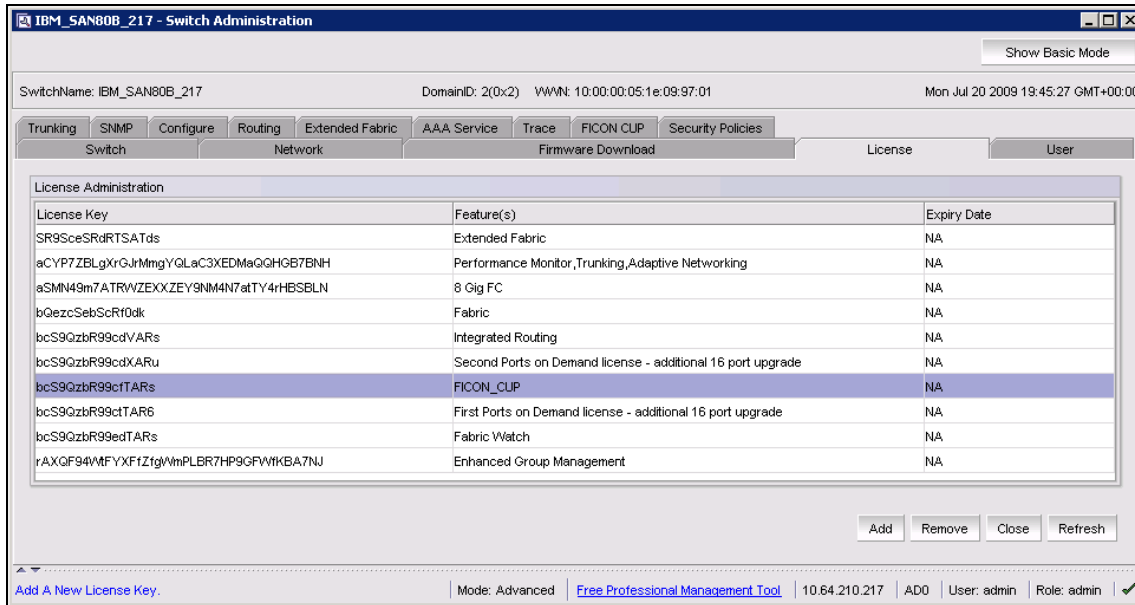

Figure 8-84 Removing a license
1. Highlight the license key to remove and click **Remove**, as shown in Figure 8-84.